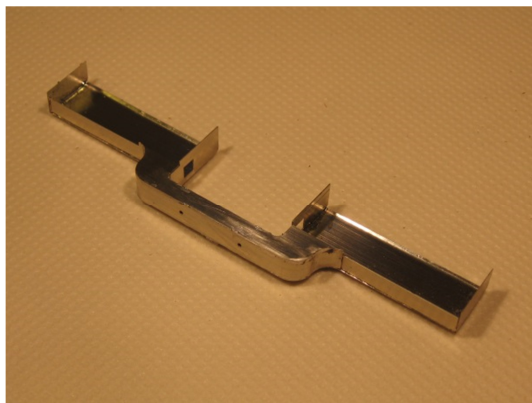

Fig. 24
54. The last side plate can then be fitted. Fig 24 & 25.